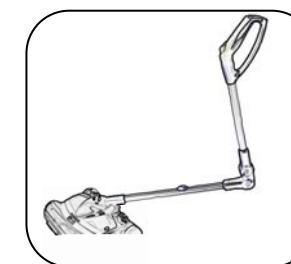

Fig. 9
5. To vacuum under furniture, press the handle release button and apply pressure in order to bend the sweeper's handle forward. The top forward folding hinge will release from the locked position for increased range of motion, allowing you to easily reach under sofas, beds, and chairs. (Fig. 9)